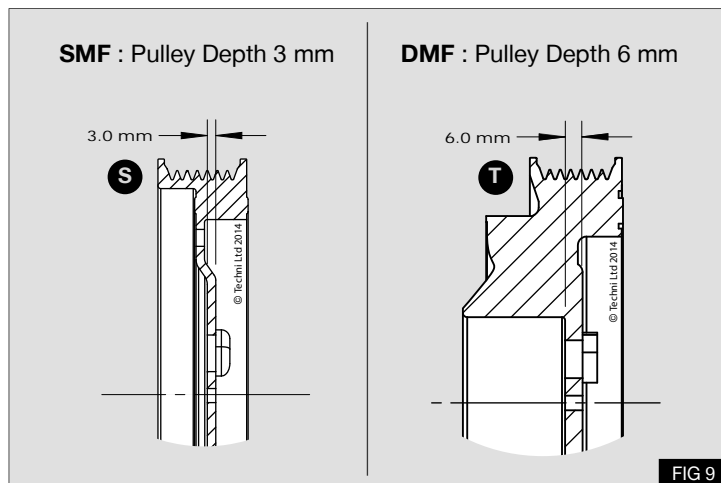
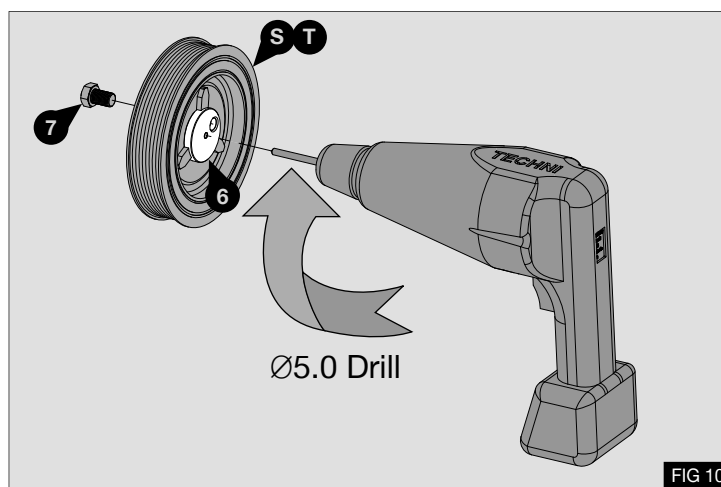
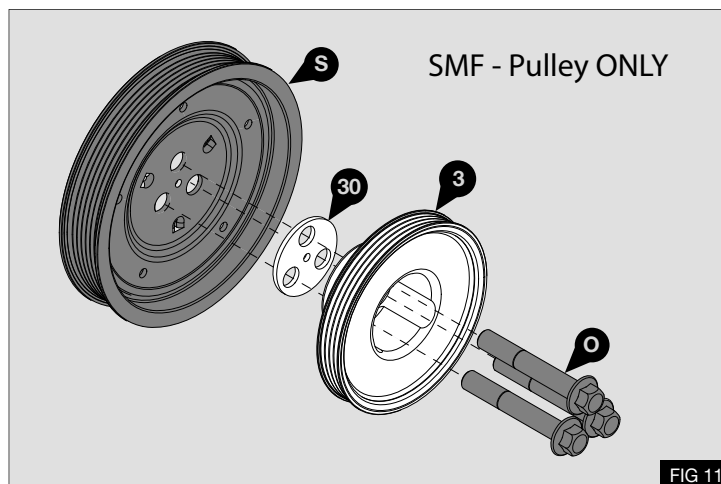

FIG 9
FIG 10
FIG 11
1. Check the type of engine crankshaft damper fitted to the vehicle, Single Mass Flywheel (SMF) (S) or Dual Mass Flywheel (DMF) (T) - Fig 9
2. Mount the drilling jig (6) to the rear of the previously removed engine damper fixing it with bolt (7)
3. Drill a 5mm hole through the drilling jig and crankshaft damper. - Fig 10
**Warning:** Centralise the drilling jig (6) between the locating lugs on the damper.
4. Assemble the supplied crankshaft pulley (3) and spacer (30) to the original crankshaft damper type (S) and fix to the original position using the original bolts (O) - Fig 11